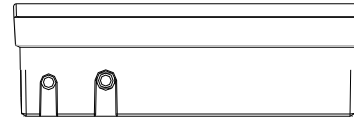

Figure 8: Bottom View
The LN-Scheduler controller also has a built-in network jack (1/8 in. [3.5 mm] mono male audio jack) that can be used to connect to the LON network. This network jack is located on the bottom of the device (Figure 8).
2. **Service pin:** Press the service pin on the device to broadcast the Neuron ID on the LONWORKS network. The Service pin on the Scheduler is located on the bottom right of the device (Figure 8).